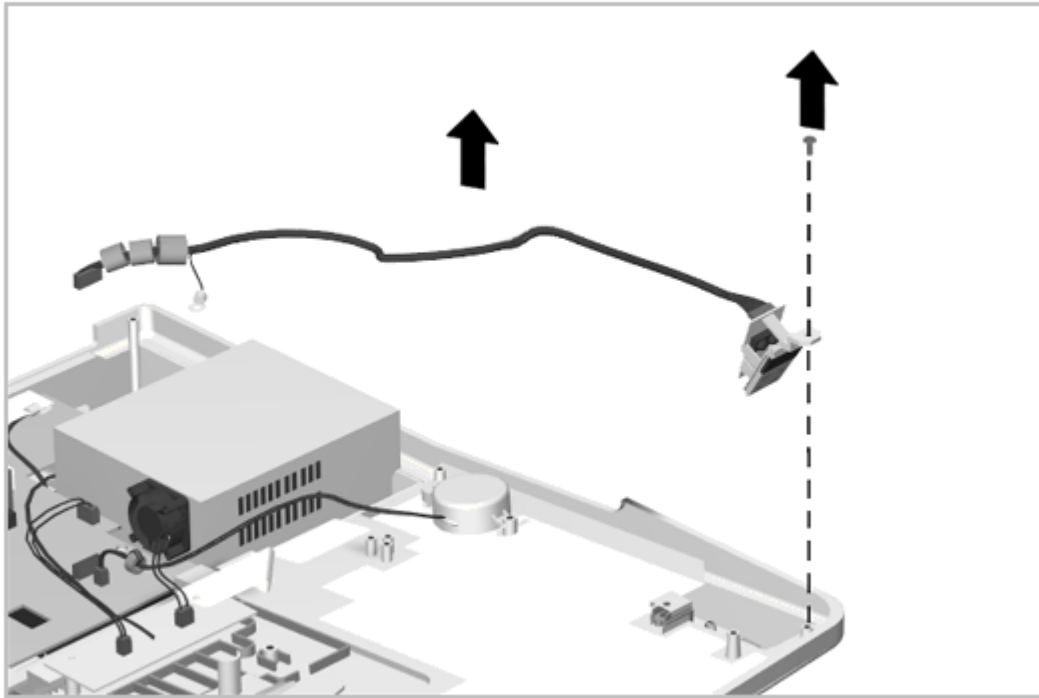

Figure 6-27. Removing the IrDA Board
4. Remove the screw holding the IrDA board in place and lift the board out (Figure 6-27).